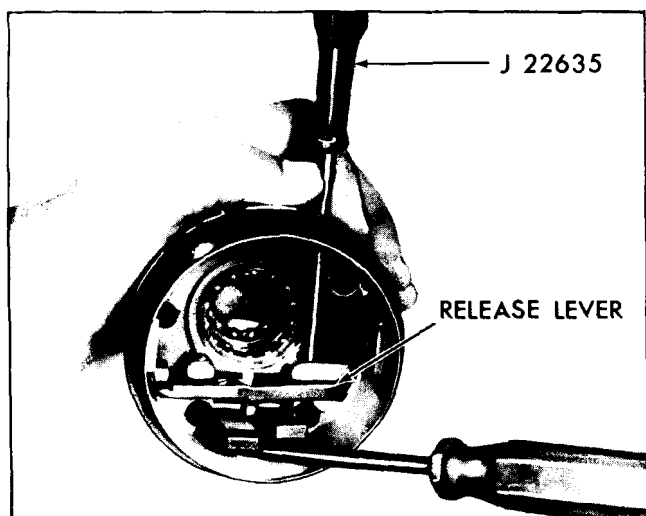

Fig. 9-61 Removing Tilt Release Lever Pin
5. Remove lock shoe release lever pin by driving out with J 22635. Remove lever and release lever spring (Fig. 9-61).
NOTE: *Again, relieve load on release lever as in step 5 of disassembly procedure (Fig. 9-61).*